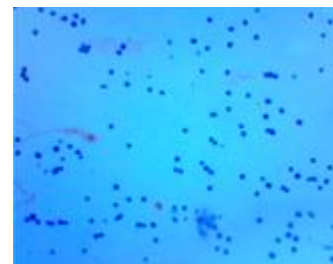

Figure 5: Example trypan blue stained fixed cells.
- Examples of stained fixed cells are shown below. High quality fixed samples have single distinct cells/nuclei with <5% aggregation and no debris. Higher levels of aggregation will lead to elevated doublets after sequencing and may indicate a poor quality cell/nuclei isolation. When quantifying fixed cells/nuclei, it is critical to avoid counting debris to avoid overestimating the number of cells/nuclei (Figure 5).